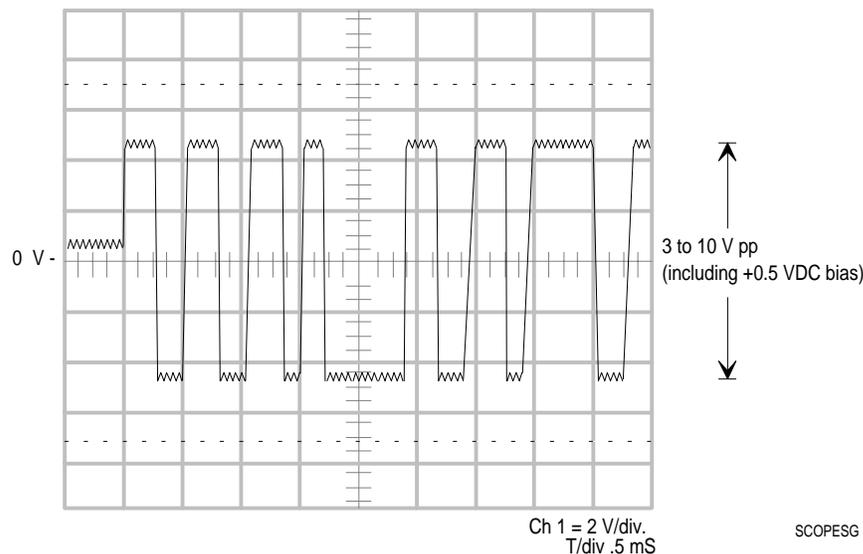

Figure 15: N2 Bus Signal as Measured with Oscilloscope
7. Compare the signal you measure with the waveform in Figure 15. They should resemble the figure. A signal outside this range indicates that the N2 Bus is not functioning properly.